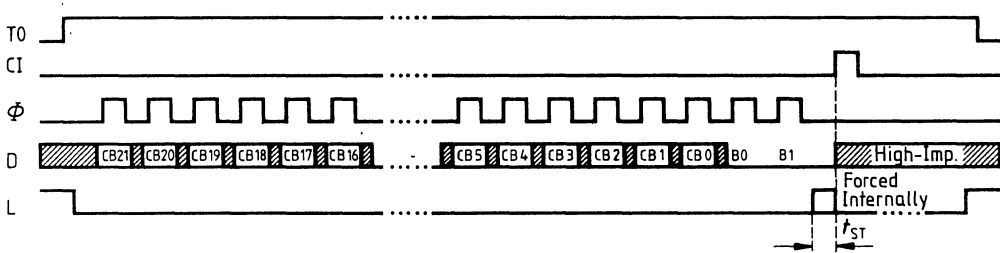

Figure 2a
Test Operation (fig. 2a, 2b, 2c)
a) Presetting of count (fig. 2a)